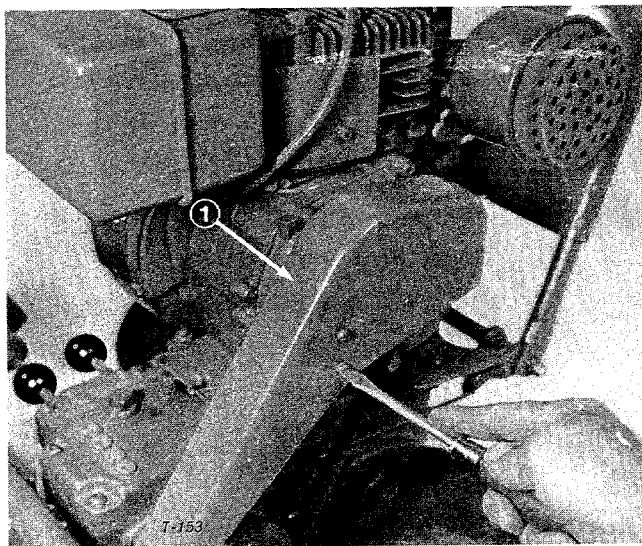

Figure 42
1. Remove the cover over the left side of the machine (Fig. 42).
4. Continue adjustment until tension is correct and install belt guard (Fig. 42).